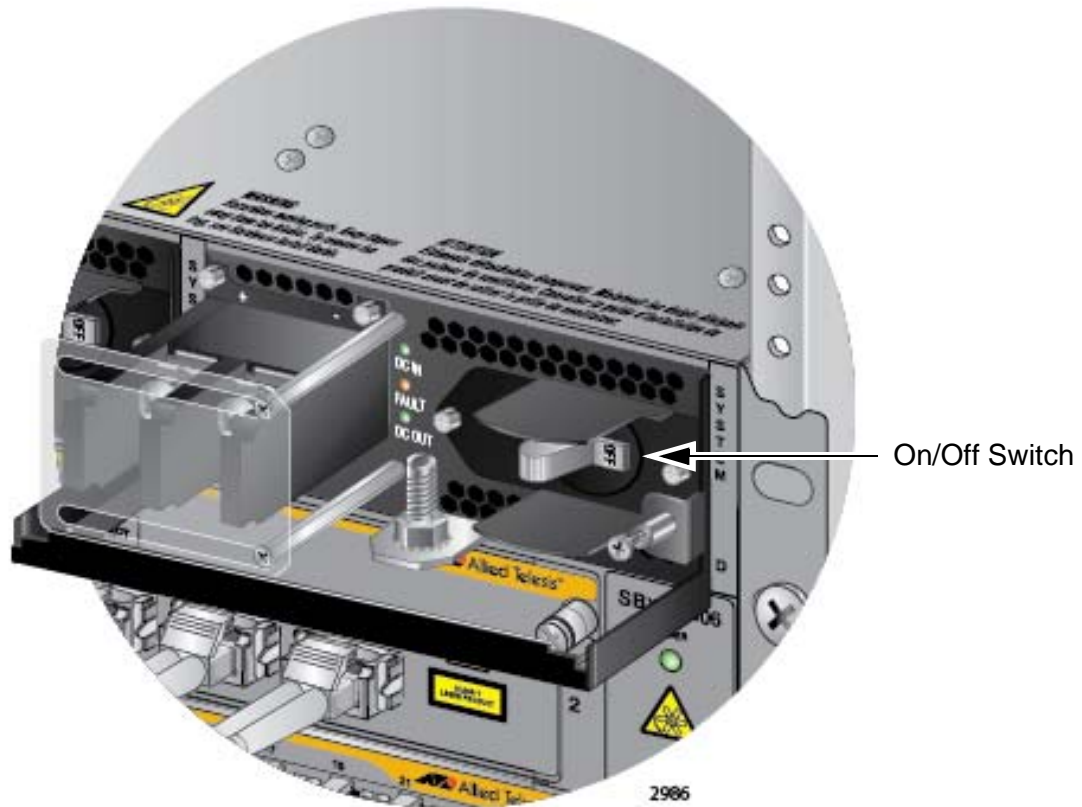

Figure 133. On/Off Switch on the AT-SBxPWRSYS1 DC Power Supply
3. Verify that the On/Off switch on the AT-SBxPWRSYS1 DC Power Supply is in the Off position. Refer to Figure 133 on page 206.
13. Turn the On/Off switch on the power supply to the On position. See Figure 133 on page 206.
2. Verify that the On/Off switch on the AT-SBxPWRSYS1 DC Power Supply is in the Off position. Refer to Figure 133 on page 206.
12. Turn the On/Off switch on the power supply to the On position. See Figure 133 on page 206.
11. Turn the On/Off switch on the power supply to the On position. See Figure 133 on page 206.